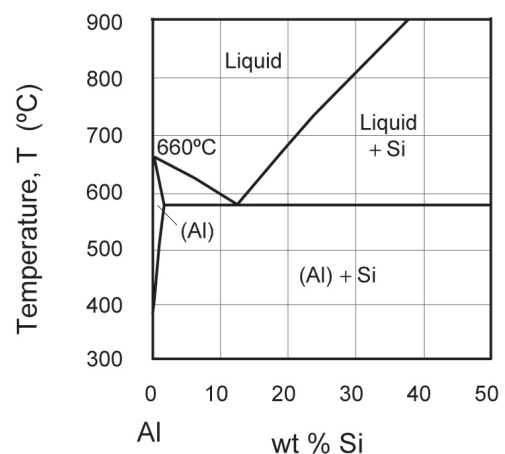

Figure 12: aluminium-silicon Al-Si phase diagram
21. Figure 12 shows part of the phase diagram for the Al-Si system (the basis of aluminium casting alloys). Use this figure to answer the following: